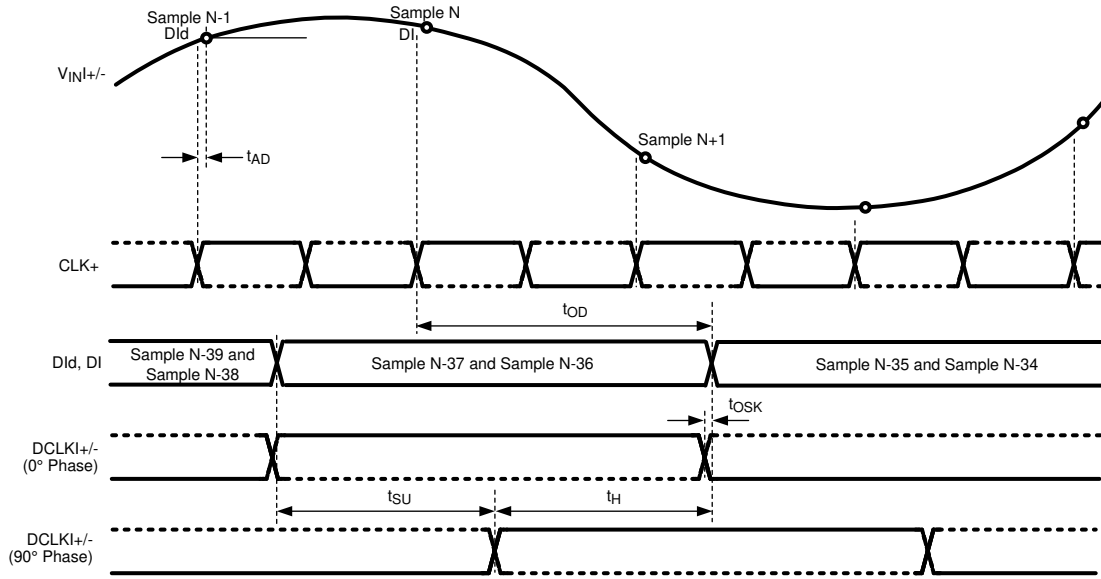
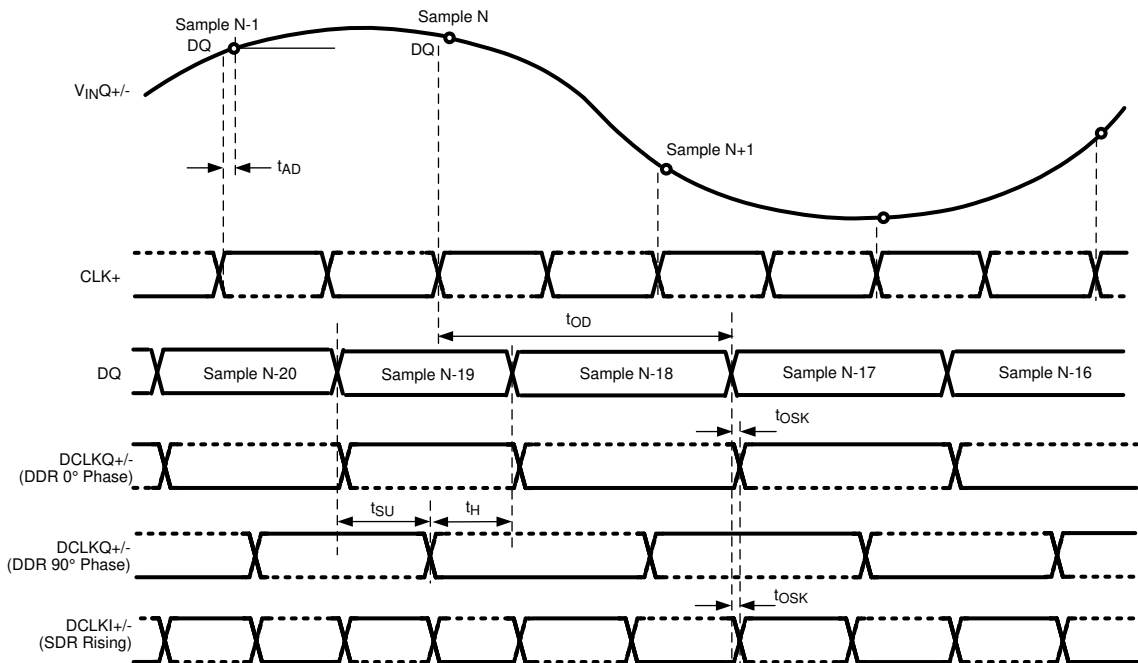

图 6-1. Clocking in Non-LSPSM, 1:2 Demux, Non-DES Mode*
Figure 6-6. Clocking in LSPSM, Non-Demux Mode, Non-DES Mode*
* The timing for Figure 6-1 through Figure 6-6 is shown for the one input only (I or Q). However, both I and Q inputs may be used. For this case, the I channel functions precisely the same as the Q channel, with V_{inI} , $DCLKI$, DId , and DI instead of V_{inQ} , $DCLKQ$, DQd , and DQ . Both I and Q channel use the same CLK.